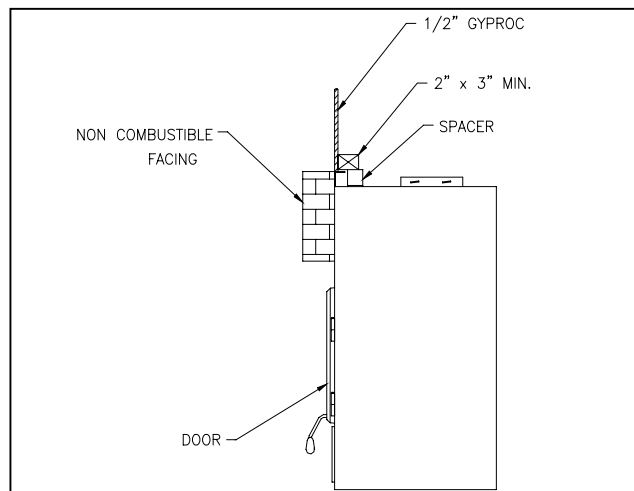

Figure 12
2. Non-combustible materials such as brick, stone or ceramic tile may project in front of and onto the fireplace facing (figure 12).